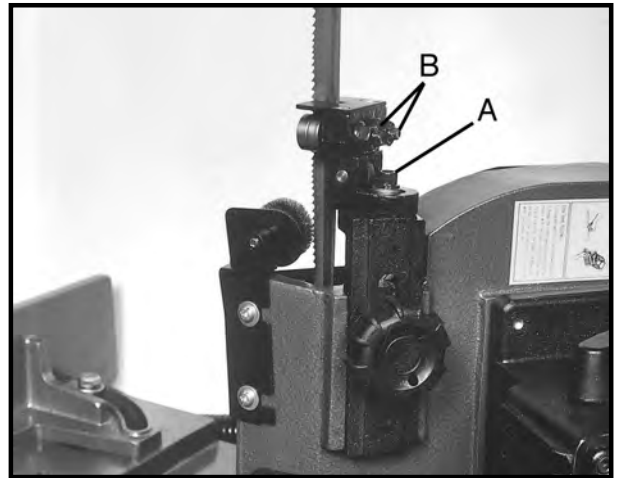

Fig. 14
3. Loosen hex cap screw (A, Fig.14 ) and adjust assembly so that back roller bearing is approximately .003" - .005" from the back of the blade.